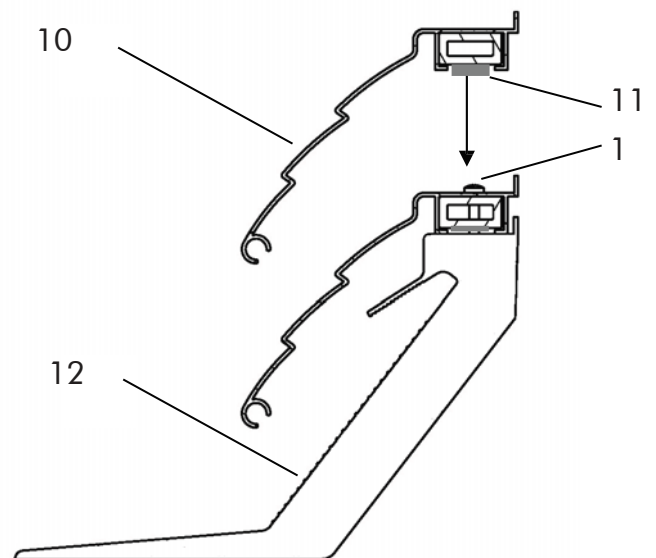

Figure 2. Refurb frame installation
Apply the sealing tape to the bottom of the refurb frame (11). Align the frame and in one motion, place it down onto the upstand (Figure 2).